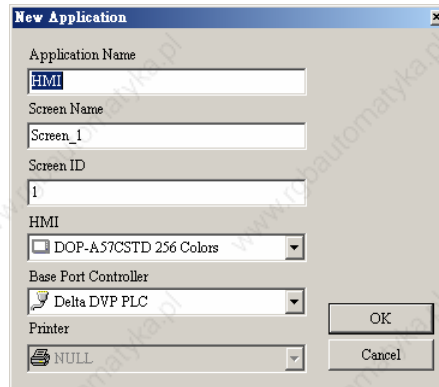
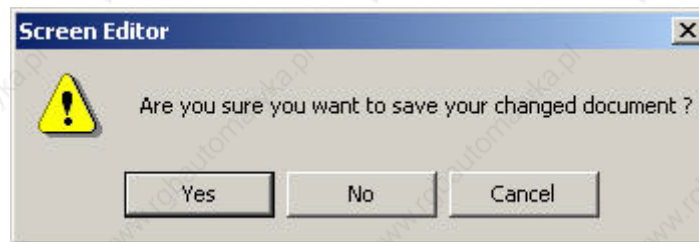
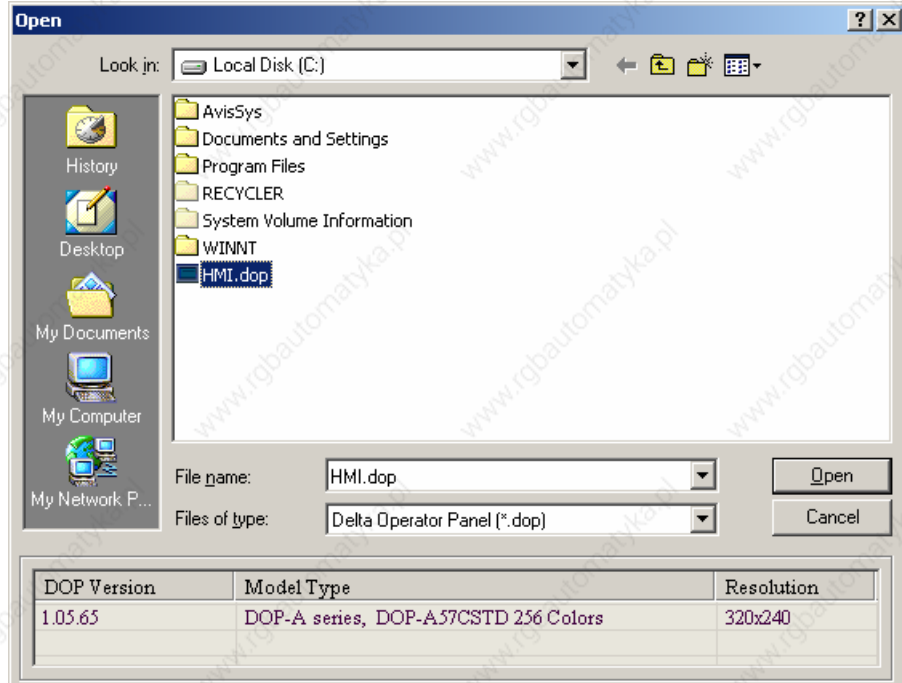

Fig. 2.3.4 New application dialog box
Fig. 2.3.5 Saving dialog box
Fig. 2.3.9 Open an old application in ScrEdit
1. If this is the first time use and there is no old application, the following dialog box (Fig. 2.3.4) will show up for the users to input application name, screen name, screen ID, HMI type and connecting base port controller after creating a new application.
2. If other application files already exist and are open, the users will get the following dialog box to remind the users of saving application (Fig. 2.3.5) before creating new application. Press **Yes** button to save the existed file, press **No** button not to save the file and press **Cancel** button to cancel the save operation. After the users press the **Yes** or **No** button, the new application dialog box will appear again (Fig. 2.3.4).
1. If other application files exist before opening an old application, the users will get the Saving dialog box (Fig. 2.3.5) to remind the users of saving file and then get the following dialog box for opening existing dop file (Fig. 2.3.9).